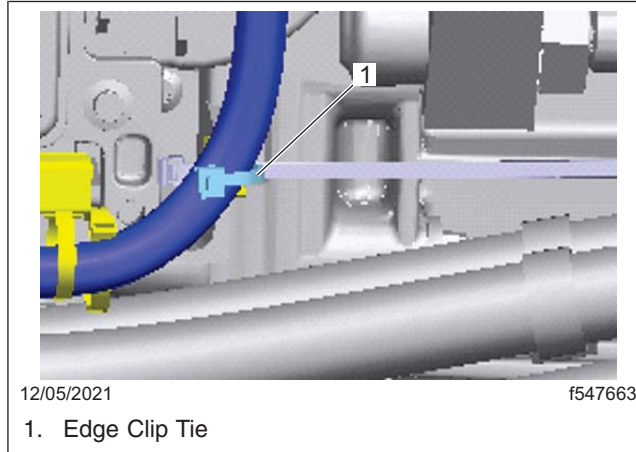

Fig. 6, Attaching the Harness at the Rear of the TCU with an Edge Clip Tie
- 7.4 Using an edge clip tie and clamp, secure the harness on the lower tab at the rear of the TCU. See Fig. 6.